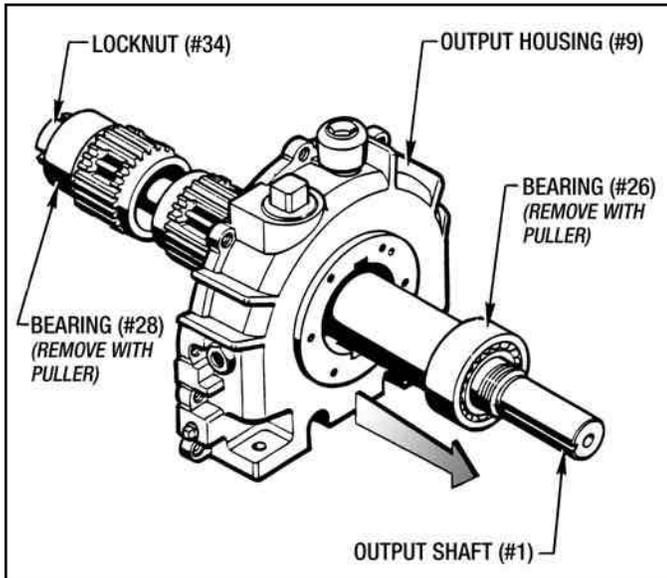

Figure 7.16 - Removing Output Shaft From Output Housing
(See Figure 7.16)
3. Slide the Output Shaft (#1) out of the housing as shown in Figure 7.16.